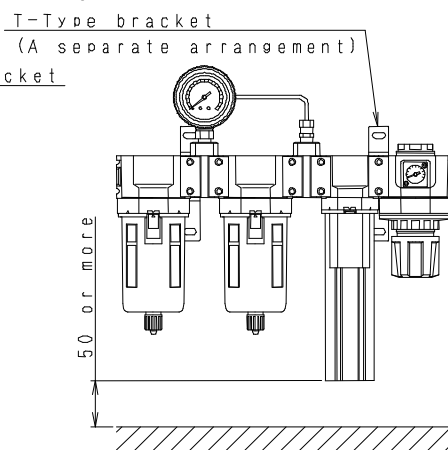

Fig.4
- 2) When connecting module of a filter or a regulator before and behind a super drier, attachment by C-type bracket cannot be performed. Please attach using T-type bracket. (Refer to Fig. 4)